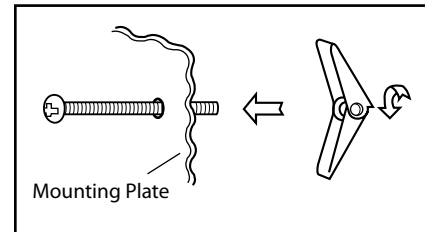

Figure 17
1. Separate 4 Toggle Bolts ②, packed in the INSTALLATION HARDWARE, from the Toggle Nuts.
2. Use Wood Screws ① to attach Mounting Plate to the stud or studs. Use Toggle Bolts to attach Mounting Plate through the holes at A, B, C and D; UNLESS THOSE HOLES ARE LOCATED ON THE STUD. Insert one Toggle Bolt into A, B, C and D where appropriate (these correspond to the holes of the Wall Template) and put the Toggle Nuts onto the Toggle Bolts. Figure 17. Refer to instructions in Wall Template.